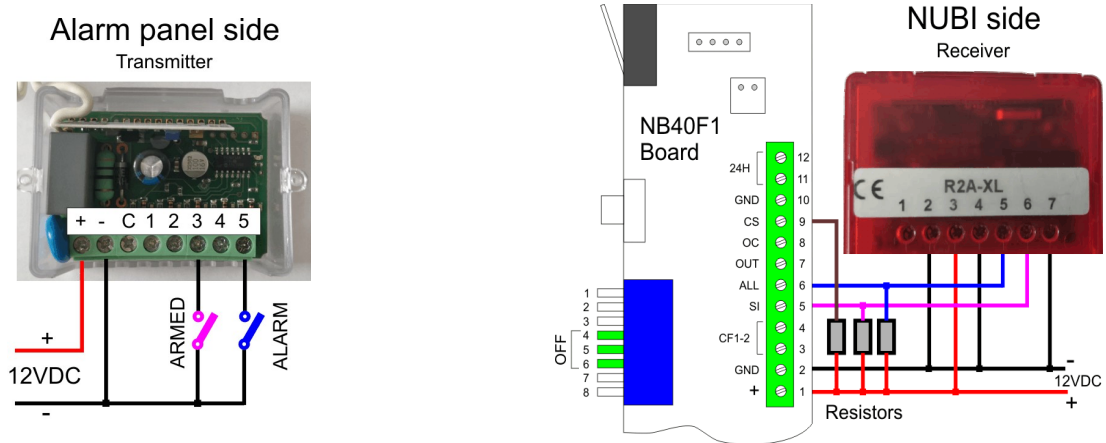

Figure 1
- Figure 1 shows the wiring to use the internal IR of NUBI and its algorithm.